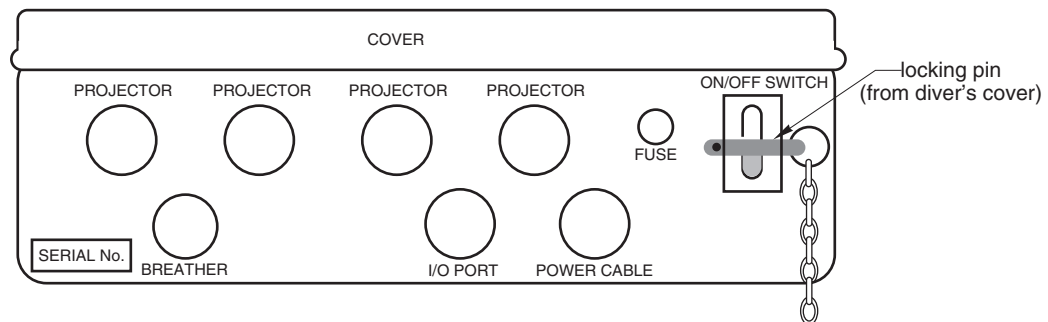

Figure 4. Bottom view of transmitter
**WARNING:** Before a diver enters the water within 150 m (500') of a dB Plus II™ system, **always turn the power switch to “OFF” and secure it in the “OFF” position with the locking pin attached to the diver’s cover (see Figure 4). In addition, the high visibility diver’s cover must be securely fastened over the transmitter, signaling the presence of a diver in the water. The pin and cover shall remain in place until the area is clear of divers.**
The dB Plus II™ transmitter is protected by a 8 amp AG fuse. If the power cable leads are mistakenly reversed or the transmitter is inoperative, check for a blown fuse. The fuse is located in a drip-proof holder on the bottom panel of the transmitter (see Figure 4).
- Check for a blown transmitter fuse. Replace the blown fuse with a new 8A fuse (see Figure 4).